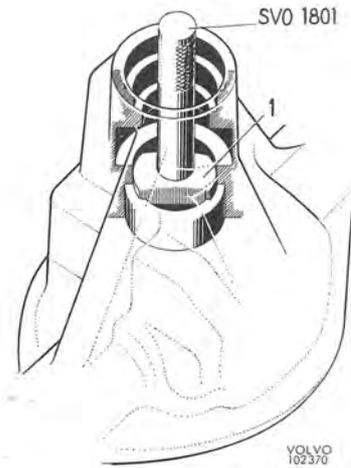

Fig. 4-148. Removing rear pinion bearing race
9. If necessary, drive out the rear bearing outer ring out of position, see Fig. 4-148. Use standard handle 1801 and drift 2843.